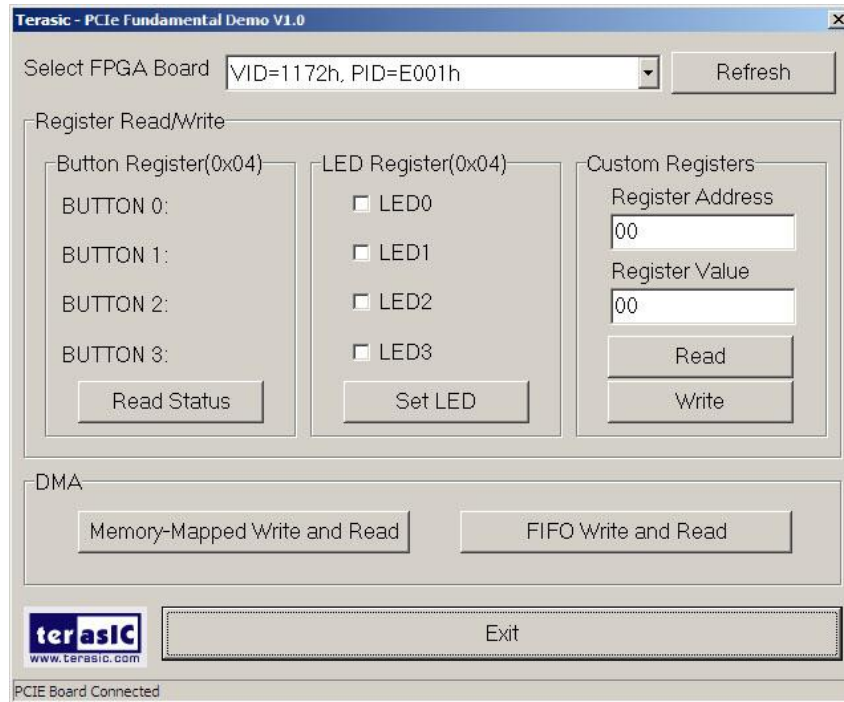

Figure 7-12
- Launch the demo program `PCIe_Fundamental_Demo.exe` shown in **Figure 7-12**.